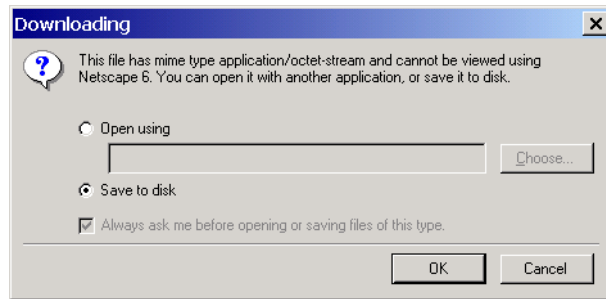

Figure A-5 Netscape Mime Notification
- If you are saving to a file from Netscape, the dialog box in Figure A-5 on page A-6 appears.